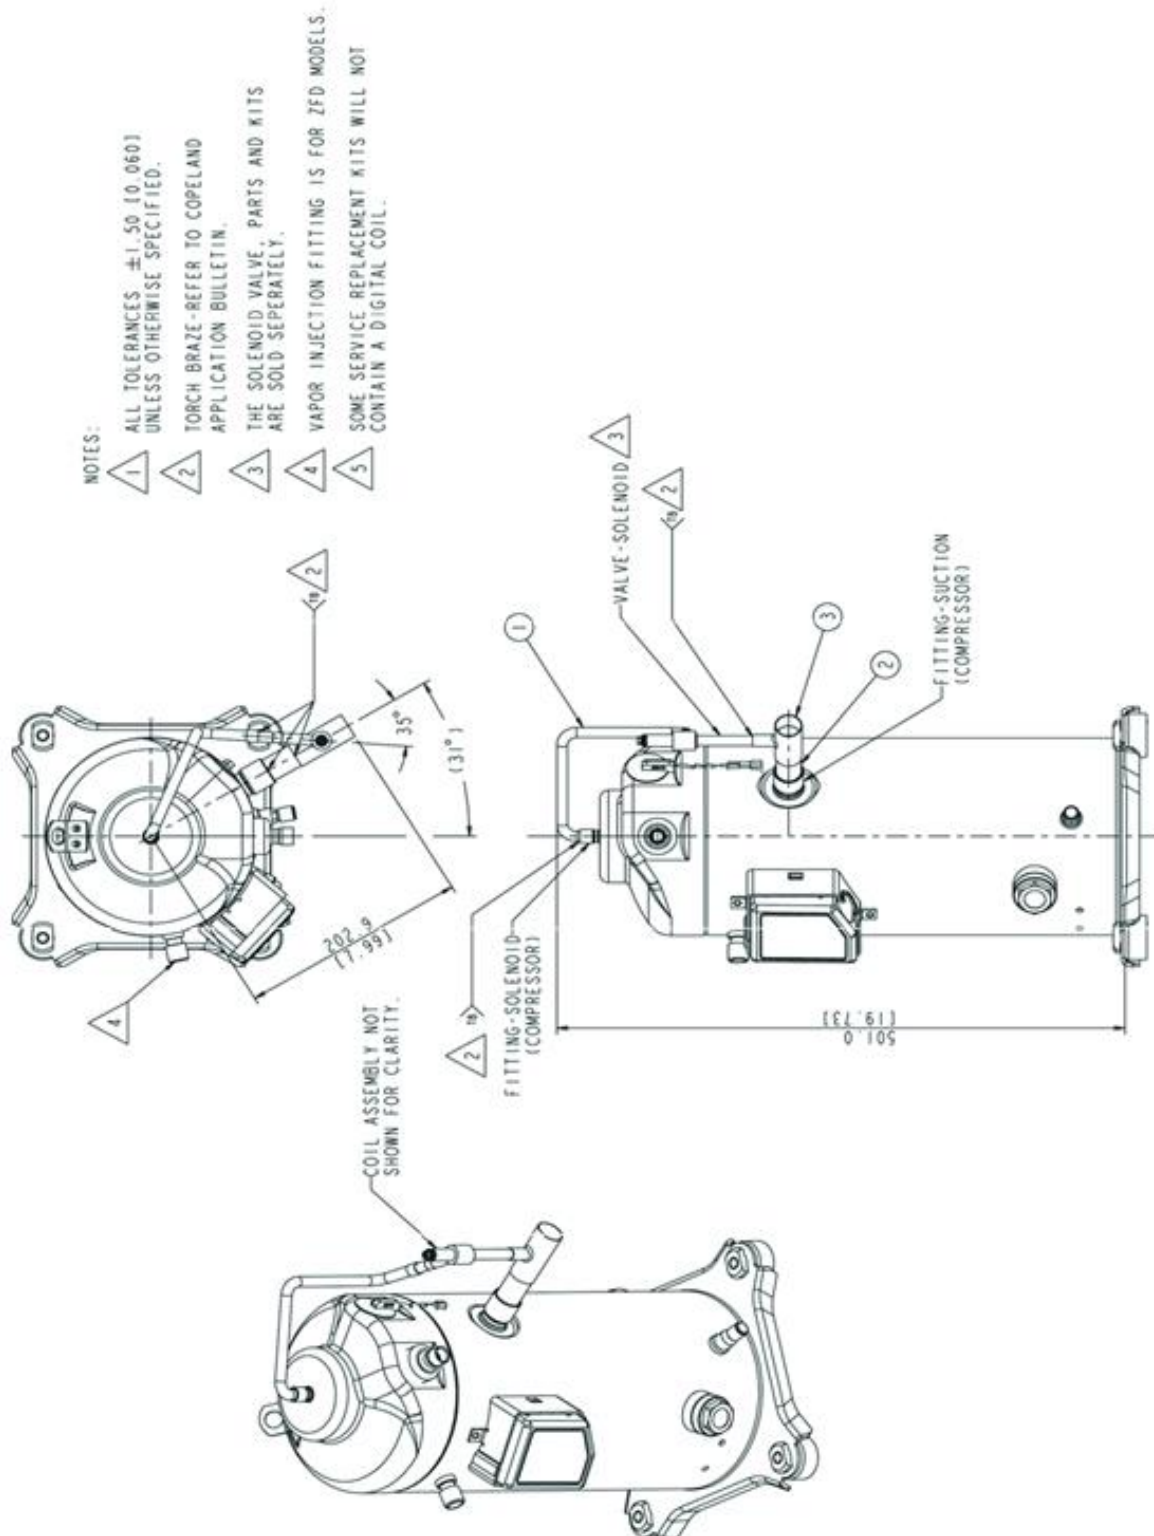

Figure 4 - Injection Assembly Diagram with Sweat Connections
6. From the top cap to the solenoid a series of bends and or shock loops are required to dampen vibrations and resonance frequencies the assemblies might see during operation and start up. See Figures 4 and 5.